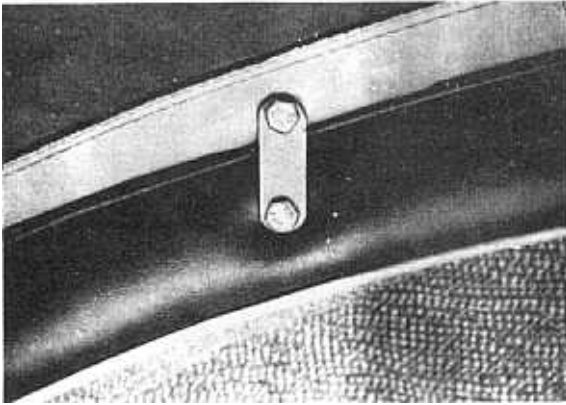

Fig. 68
The top is fastened to the body by the rear bow with two retaining brackets and by both bow ends (see fig. 68 and 70).
3. Undo two hex. hd. bolts at either rear top bracket (see fig. 68).